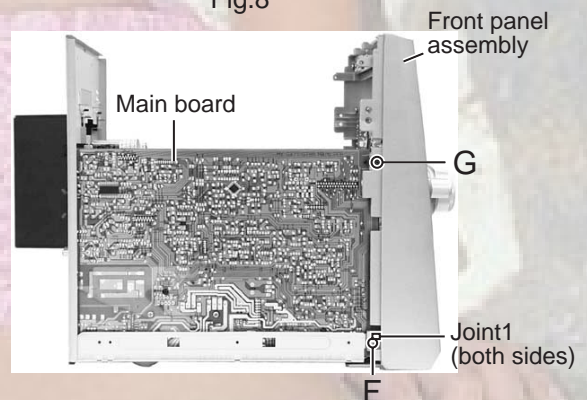

Fig.9 (both sides)
3. Remove the screw **G** attaching the main board to the front panel assembly. (See Fig.9)